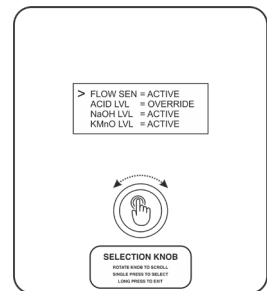

Fig. No. 24.3
• **SENSOR STATUS** (Ref. Fig. No. 24.3)